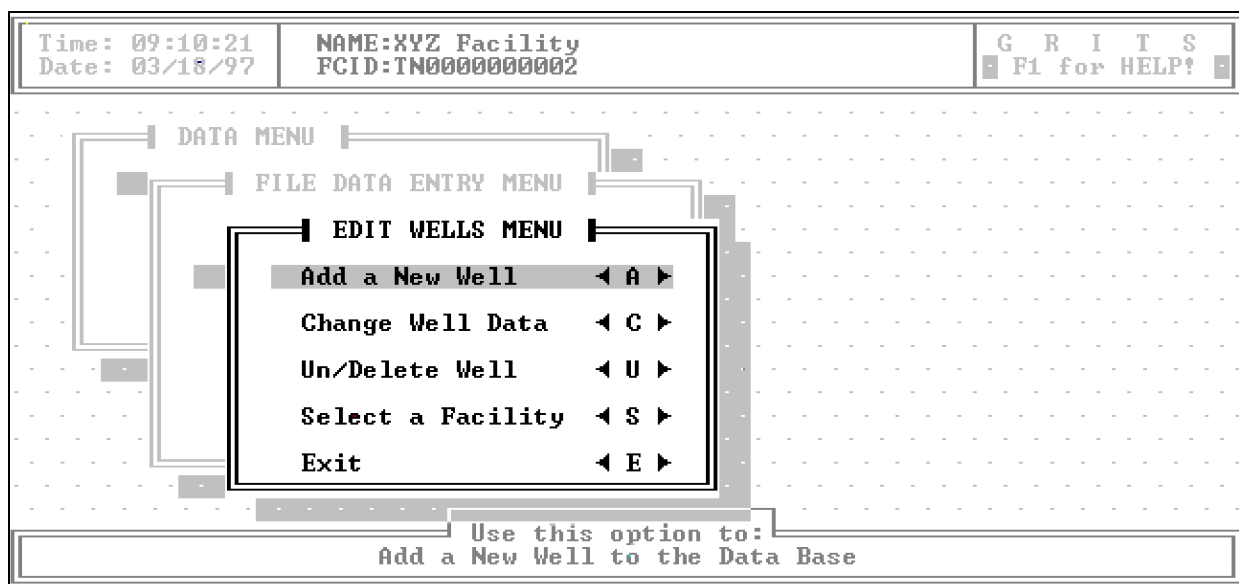

Figure 3-24. The EDIT WELLS MENU.
3. Press the <W> key or use the up and down arrow keys to highlight the Well File Data Editor option of the FILE DATA ENTRY menu and press <Enter>. The EDIT WELLS MENU appears on your screen as shown in Figure 3-24.